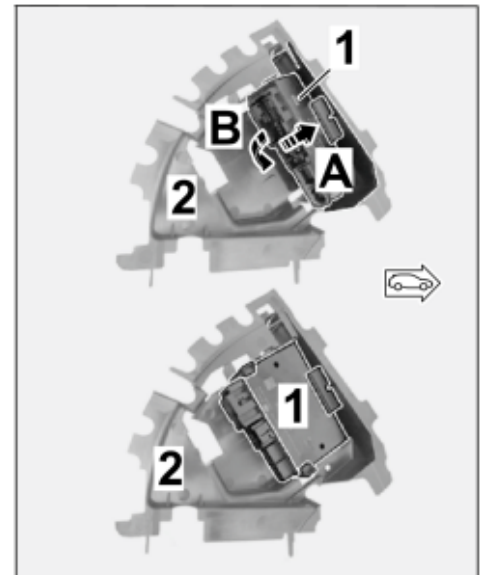

Figure 12
2.4.5 Install the trailer hitch control unit in the bracket (⇒ *Figure 12*).